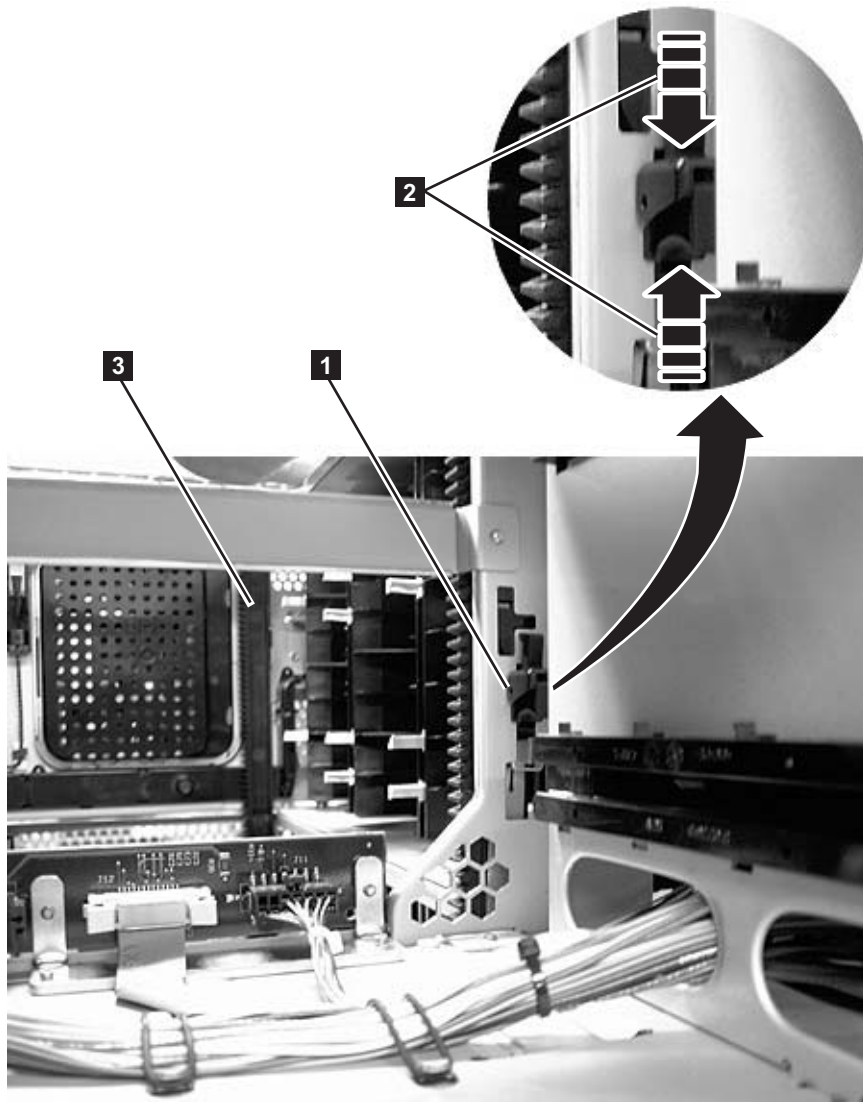

Figure 12-16. Gear rack
For the picker to move from one unit to the next in a multi-module library, the front (**3** in Figure 12-16 on page 12-18) and rear (**1** in Figure 12-16 on page 12-18) gear racks in the control module must be properly aligned with the gear racks in the expansion module.
Verify that the front (**3** in Figure 12-16) and rear (**1** in Figure 12-16) gear racks are properly aligned and positioned.
- In the bottom module of the library, verify that the gear racks are in the down position. Pinch the gear rack-locking mechanism (**2** in Figure 12-16) and push the gear rack down. Ensure that the lock is **not** engaged in the hole in the frame.
- Verify that the gear racks are in the down position. Pinch the gear rack-locking mechanism (**2** in Figure 12-16) and push the gear rack down. Ensure that the lock is **not** engaged in the hole in the frame.
- Slightly push up and pinch the gear rack-locking mechanism (**1** in Figure 12-16 on page 12-18) to unlock the gear rack in the control module.
- While you are pinching the gear rack-locking mechanism (**2** in Figure 12-16 on page 12-18), push the gear rack down until it aligns with the gear rack in the expansion module, then release your hold on the locking mechanism.